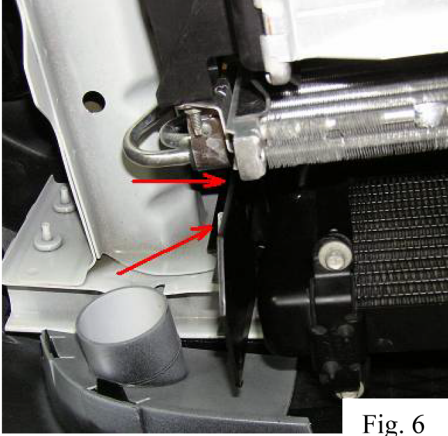

Fig. 6
- 13) Remove the 4 nuts that secure the heat exchanger mount to the vehicle's frame (Fig. 6).